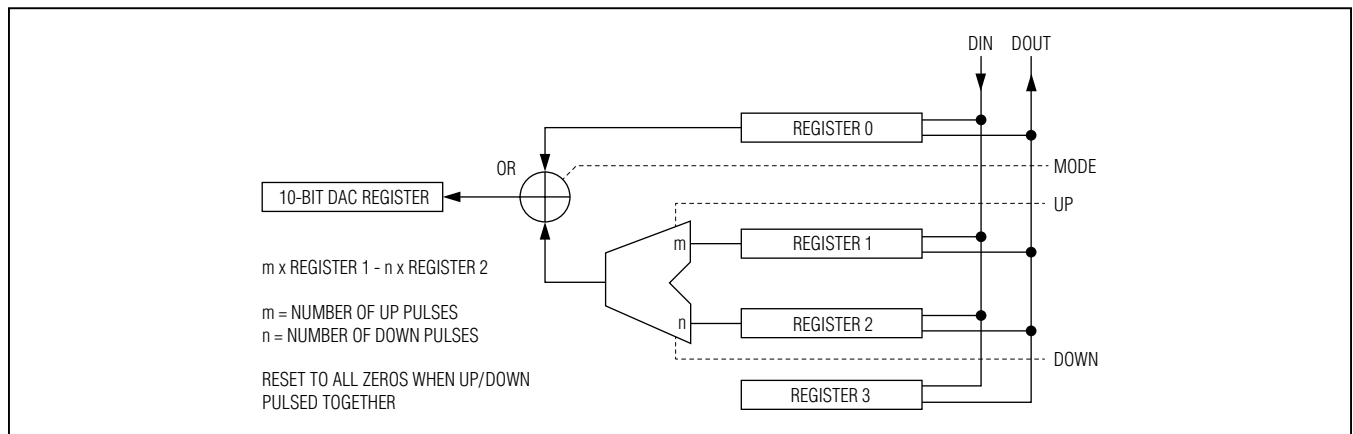
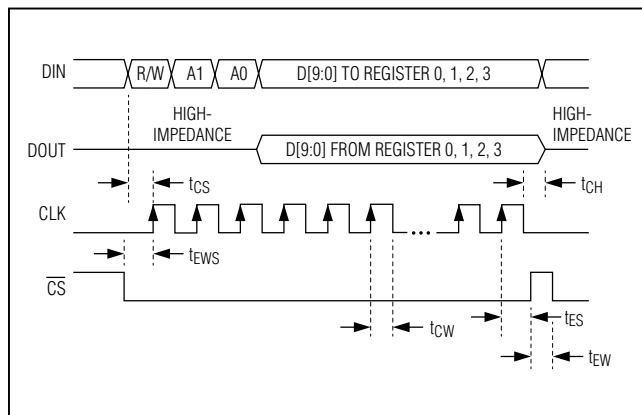
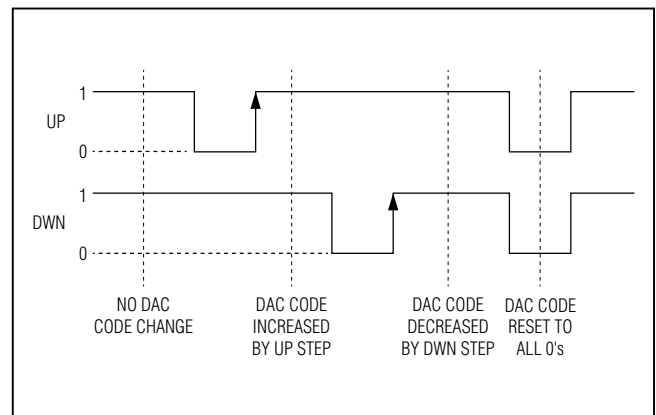

Figure 1. Register Configuration Diagram
Figure 2. SPI Timing Diagram
Figure 3. UP/DWN Control Diagram (MODE = 1)
Figure 1 shows the configuration of the internal registers of the device and Figure 2 shows the timing of the SPI bus. Register 0 sets the DAC code to the desired value, register 1 selects the step-up code, and register 2 selects the step-down code.
After powering up the device, UP and DWN should both be set to 0 to reset the m and n counters to 0. This results in a 10-bit all 0 code out of the mathematical block in Figure 1, and applied to the 10-bit DAC register that drives the DAC. To increase (decrease) the code using the UP (DWN) pin, the DWN (UP) pin must be high and the UP (DWN) pin should be pulsed low to high. The device is designed to produce no wraparounds when using UP and DWN stepping so that the DAC code maxes out at 1023 or goes no lower than 0. See Figure 3 for the UP and DWN control operation.
The device can be controlled with a 4-wire, SPI-compatible serial interface. Figure 2 shows a timing diagram for the interface. In the write mode, a 13-bit word is loaded into the device through the DIN pin, with  $\overline{\text{CS}}$  set low. The first bit of the word in the write mode is 0, and the next two bits select the register to be written to (Table 2). The next 10 bits contain the data to be written to the selected register. After the 13 bits are shifted in, a low-to-high  $\overline{\text{CS}}$  command is applied and this latches the 10 bits into the selected register. The entire write command is ignored if  $\overline{\text{CS}}$  is pulsed low to high before the last data bit is successfully captured.